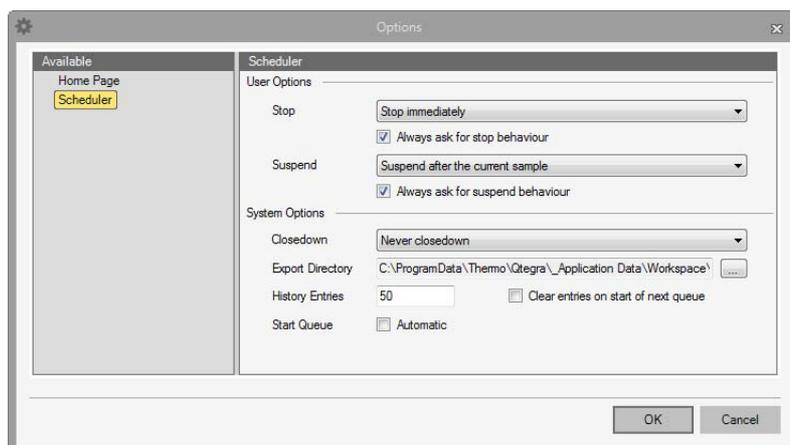

Figure 4-84. Scheduler settings in Options dialog of Help page
2. Under **Available** on the left pane, select **Scheduler** to define the settings, see Figure 4-84.